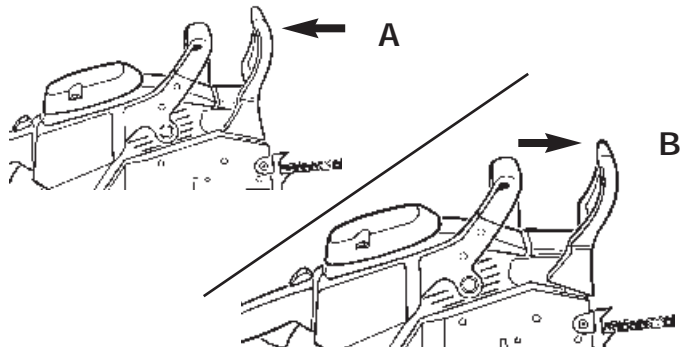

Fig. 30
2. The Chain Brake® is ENGAGED (chain is stopped) when brake lever is in forward position. You should not be able to move chain (B, Fig. 30).